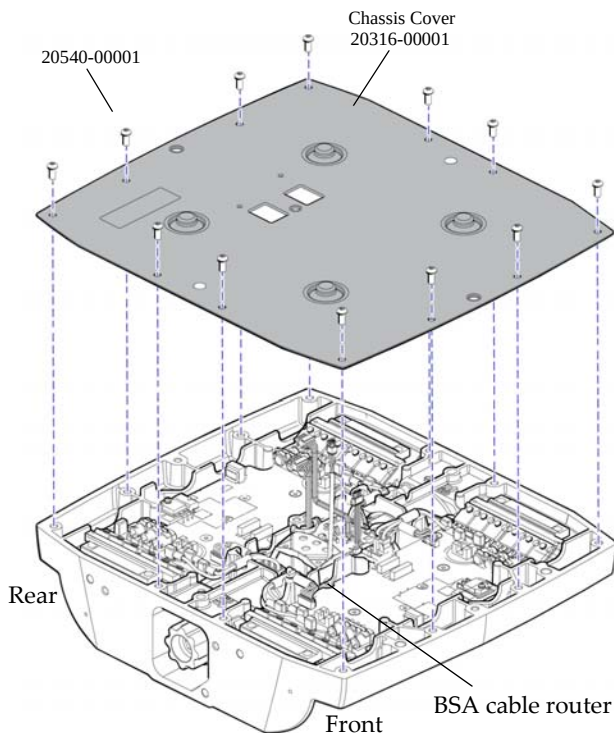

Figure 10-1: Remove or Install Chassis Cover
4. Use T-27 6-lobe wrench to remove (12) screws that attach chassis cover to chassis. See Figure 10-1.
7. Install cover and thread (12) *new* BHCS, M6 x 1.0 5x14, 6-lobe screws (20540-00001) through chassis cover into chassis. See Figure 10-1.